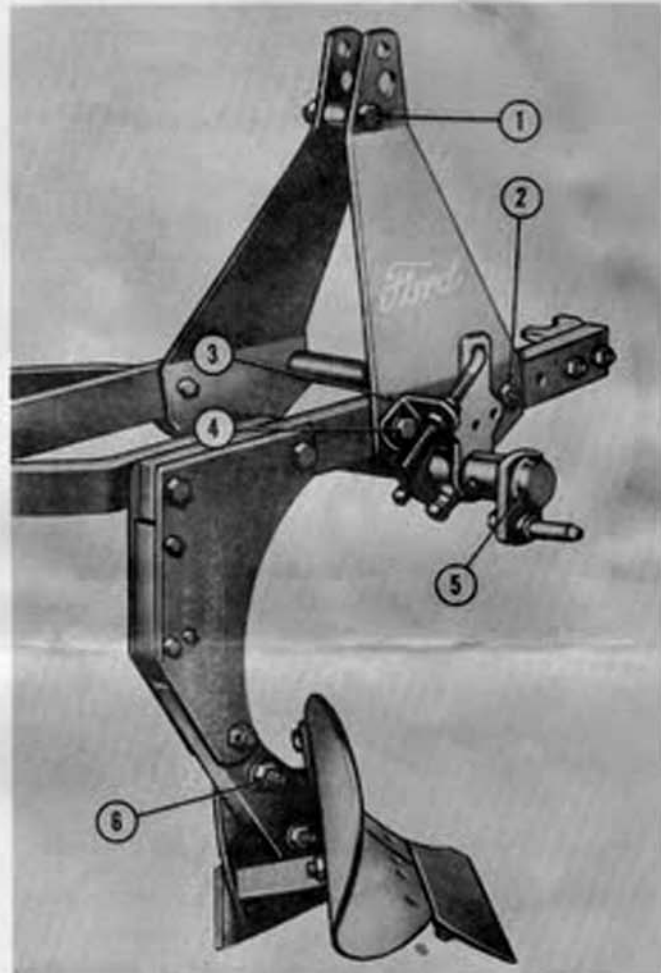

Figure 10 - Cross Shaft Installed
- a. Place a jack stand under the left side of the plow to hold it in an upright position. Remove the top "A" frame hex head bolt, spacer, lock washer and nut (1), Figure 10.
- b. Remove the nut (2), Figure 10, from the long hex bolt.
- c. Remove the hex head bolt (4), Figure 10, flat washer, bushing, lock washer and nut which secures the cross shaft adjusting linkage to the plow. Remove the right "A" frame member.
- f. Attach the "J" bolt bracket (3), Figure 10, with the hex head bolt, flat washer, bushing, lock washer and nut (4). Do not tighten the bolt at this time.
- g. Reinstall the top "A" frame hex head bolt and spacer (1), Figure 10, and secure with the lock washer and nut.
- h. Tighten the nuts on the hex head bolts (2) and (4), Figure 10, securely.
**NOTE:** When installing all Standard Front Bottoms, discard the top 2-1/2" button head attaching bolt (6), Figure 10 and replace it with a 3-1/4" heat treated bolt. Install three 5/8" flat washers on the bolt, between the beam and the moldboard brace. This will permit free rotation of the front bottoms when tripping.